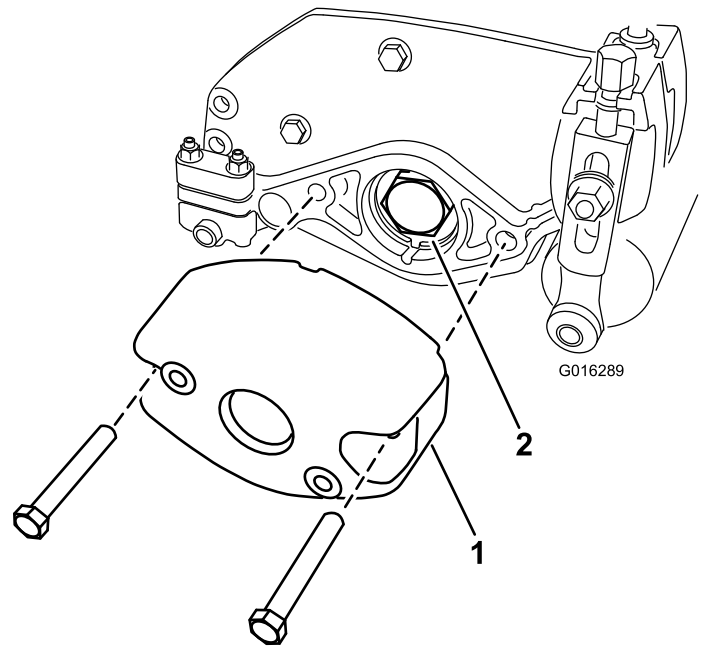

Figure 2
5. Remove the 2 bolts and nuts securing the counterweight to the right end of the cutting unit. Remove the counterweight (Figure 2).
6. Remove the bearing nut from the reel shaft (Figure 2).